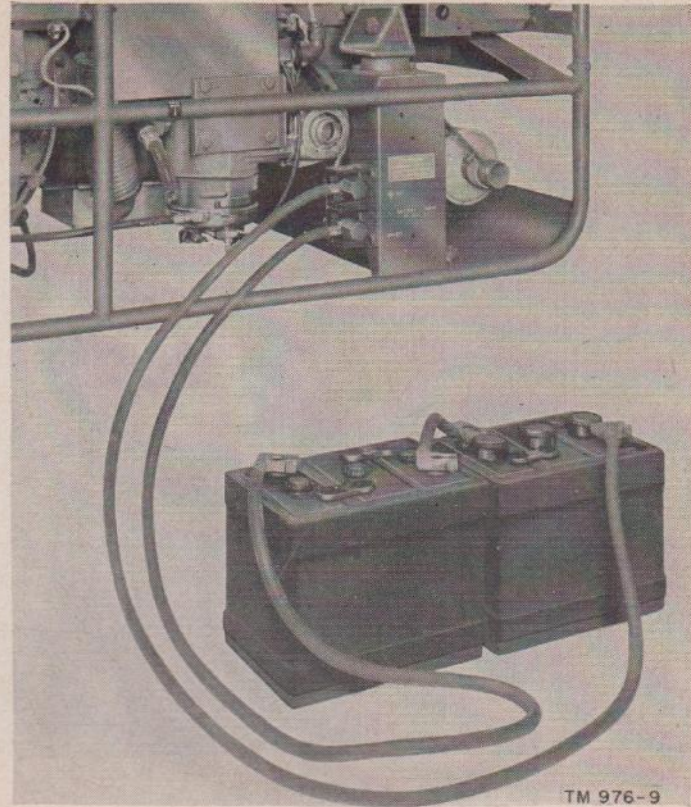

Figure 9. Battery connections.
- (1) Connect the cable from the stop terminal on the switch to the remote STOP terminal on the unit.
- (2) Connect the cable from the start terminal on the switch to the remote START terminal on the unit.
- (3) Connect the cable from the center terminal on the switch to the remote COMMON terminal on the unit.
c. Battery Connections. Two terminals for connecting the battery cables are located on the left side of the unit. After preparing the batteries for use (par. 17), position the batteries near the unit and connect them in series as follows: Attach the battery jumper cable from the negative post of one battery to the positive post of the other battery. Connect a cable from the positive (+) terminal on the unit to the battery with the *open* positive post. Connect a cable from the negative (—) terminal on the unit to the battery with the *open* negative post. Figure 9 shows the proper battery connections.